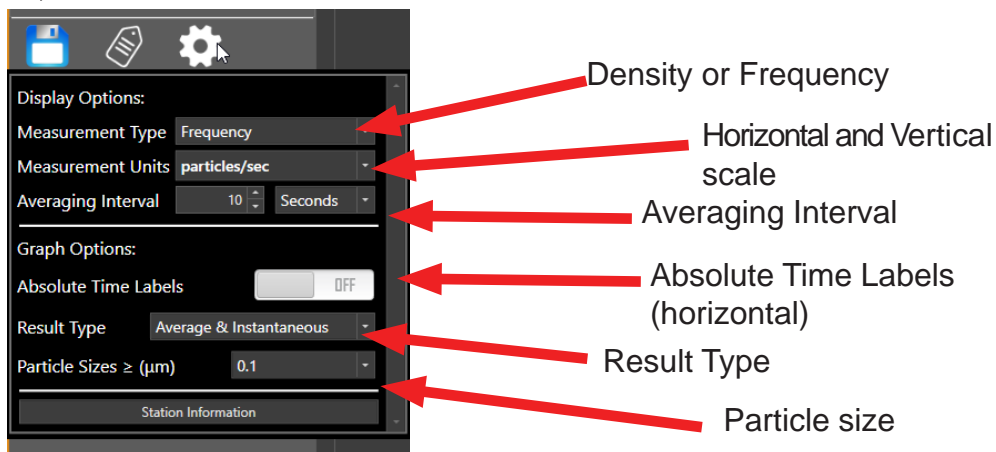

Figure 4.9: Selecting Graph Parameters
1. In the **Display Options**, choose the particle size from the **Graph Particle Sizes** (see Figure 4.9).